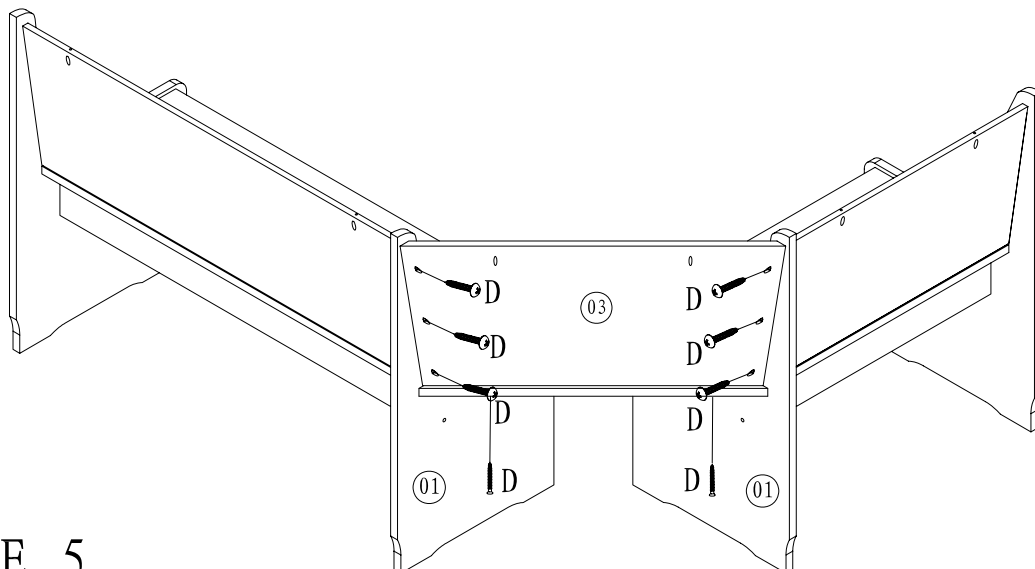

FIGURE 5
- 5.2 SECURE USING (08) SCREWS (D) AND PHILLIPS HEAD SCREWDRIVER (NOT PROVIDE), AS SHOWN IN FIGURE 5.